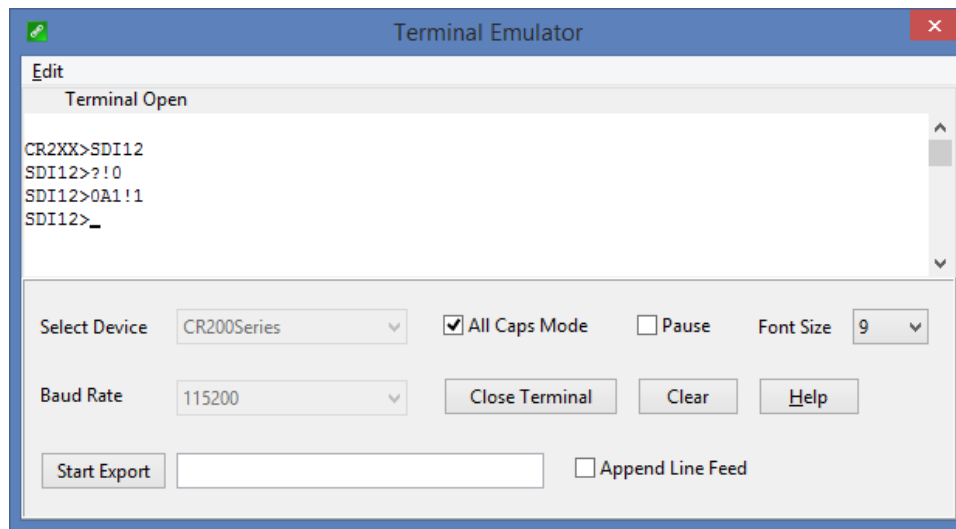

FIGURE D-2. CR200(X) example of using the SDI-12 transparent mode to change the SDI-12 address from 0 to 1
D.3.2 Changing an SDI-12 address — CR200(X) Series
- To change the SDI-12 address, type **aAb!**, where **a** is the current address from the previous step and **b** is the new address (see FIGURE D-2 (p. 36)). Press **Enter**. The sensor changes its address and responds with the new address.